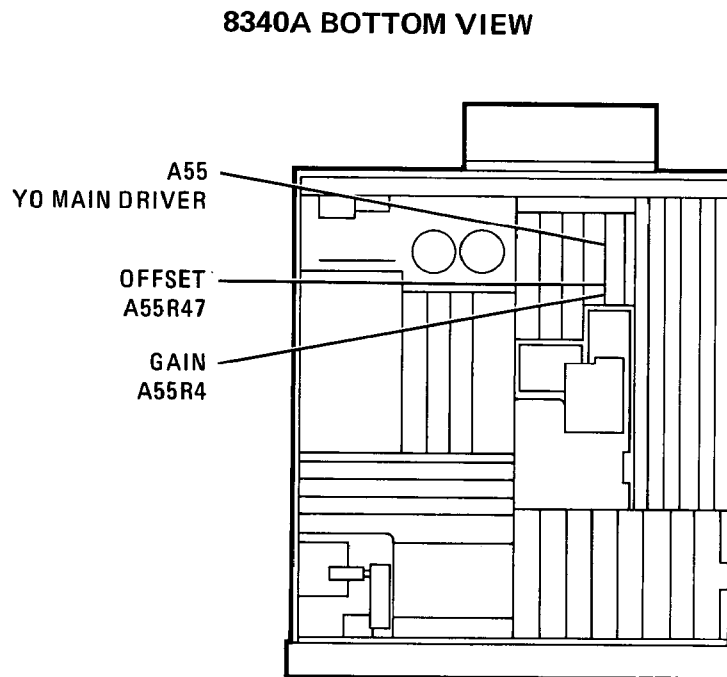

Figure 5-17. YO Main Driver A55 Adjustments Location
4. Adjust A55R47 OFFSET (Figure 5-17) for an indication at the Frequency Counter of 2.3 GHz ±1 MHz.
6. Adjust A55R4 GAIN (Figure 5-17) for an indication on the Frequency Counter of 6.999 GHz \pm 1 MHz.